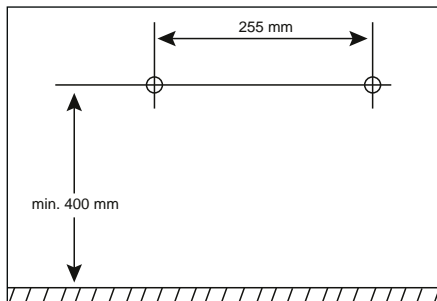

Fig. 3
- ❶ **Note:** (1) Before installation, please check which wall plugs are suitable for your installation location. We recommend wall plugs with a diameter of 6 mm. If in doubt, consult a professional. (2) When selecting the installation location, ensure that a suitable mains power outlet is within the plug-in radius of the power cord. (3) The stand **❶** must not be attached when mounting on the wall.
- ◆ Mark two drill holes at a minimum height of 400 mm and spaced 255 mm apart (see Fig. 3).